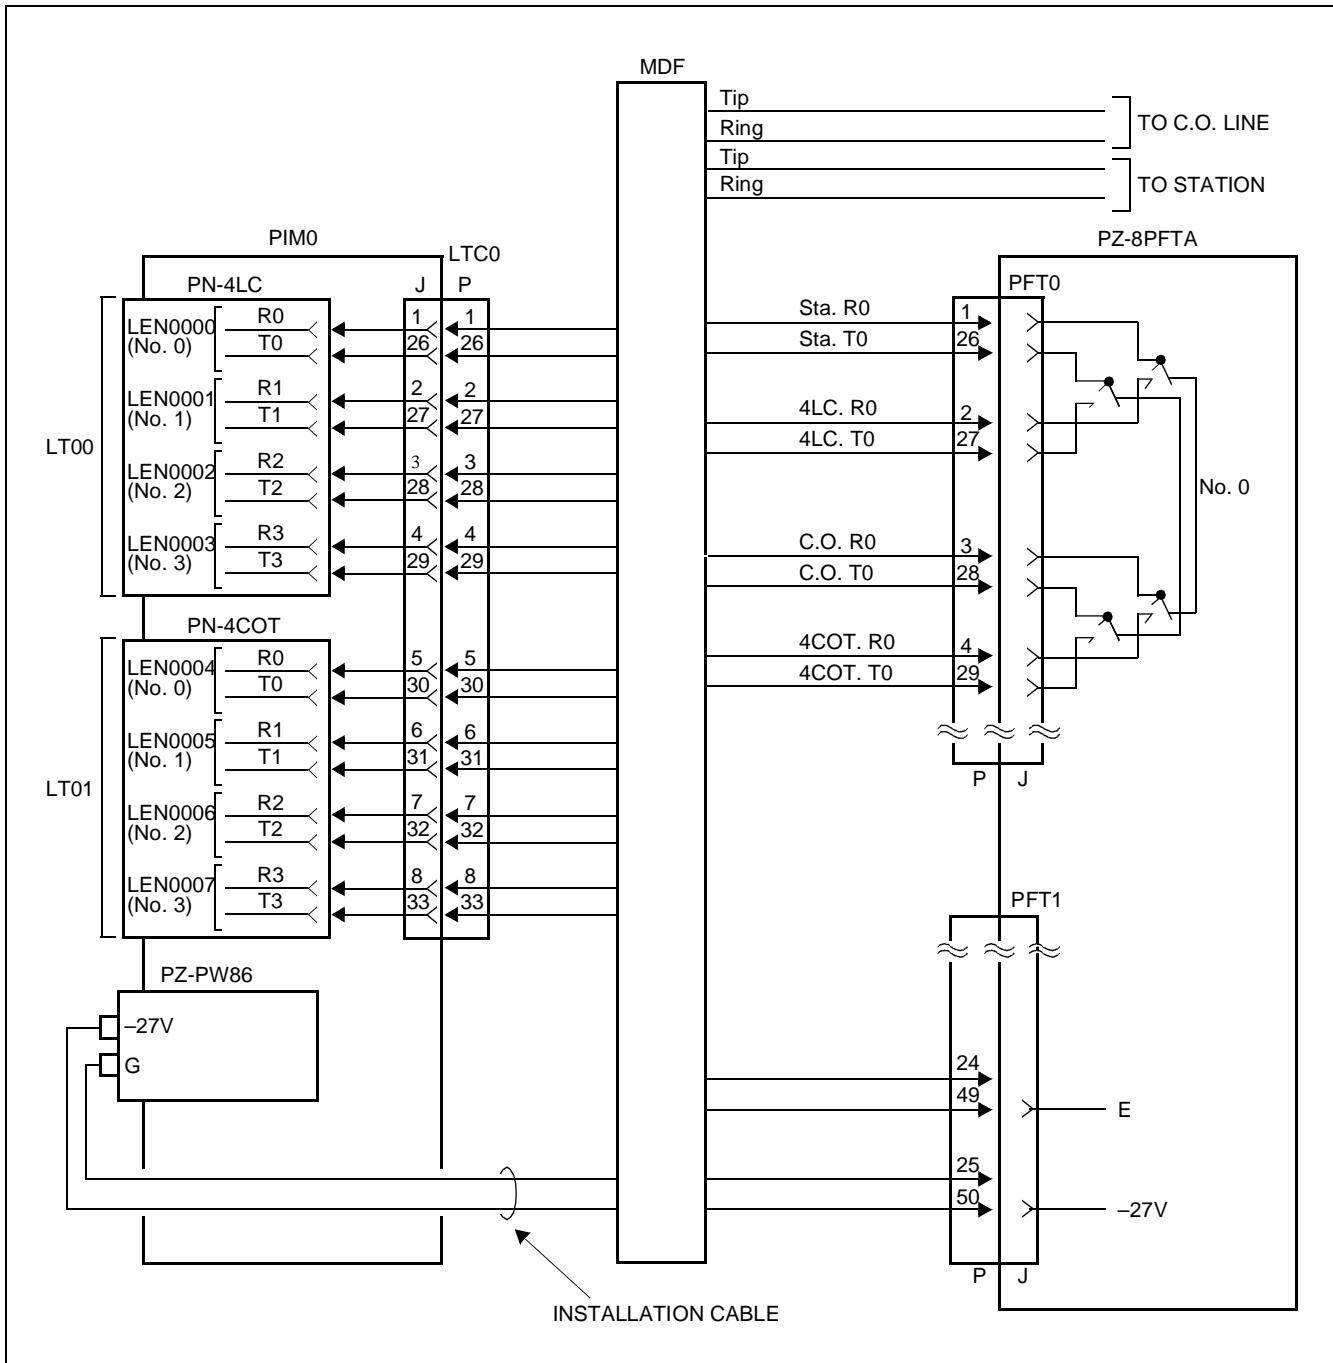

Figure 006-37 MDF Cross Connection for the PFT (PZ-8PFTA)
**STEP 3:** Connect the 25-pair cables on the MDF referring Figure 006-36 and Figure 006-37.
- Figure 006-37 shows the MDF cross connection for the No. 0 circuit on the PFT (PZ-8PFTA), as an example.